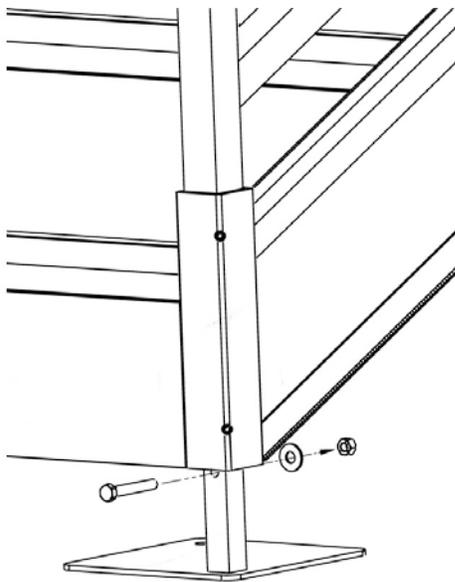

FIG. 9
- 3.4.2 Drill a 13/32" dia. hole through the leg parallel to the riser and directly under the corner pocket, install a 3/8"-16 x 2-1/2" long hex bolt, 3/8"-16 nut and 3/8" flat washer and tighten securely (FIG. 9).